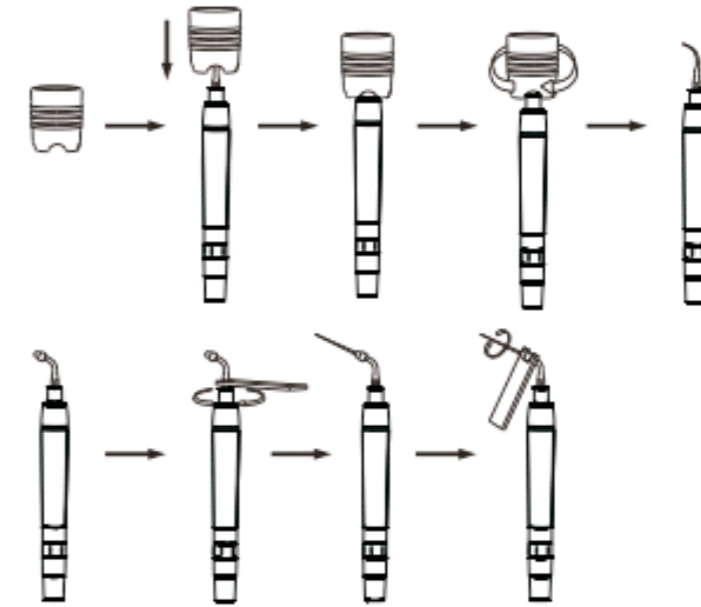

Figure 3
2.1.4 Instruction of Wrench Using (See figure 3)